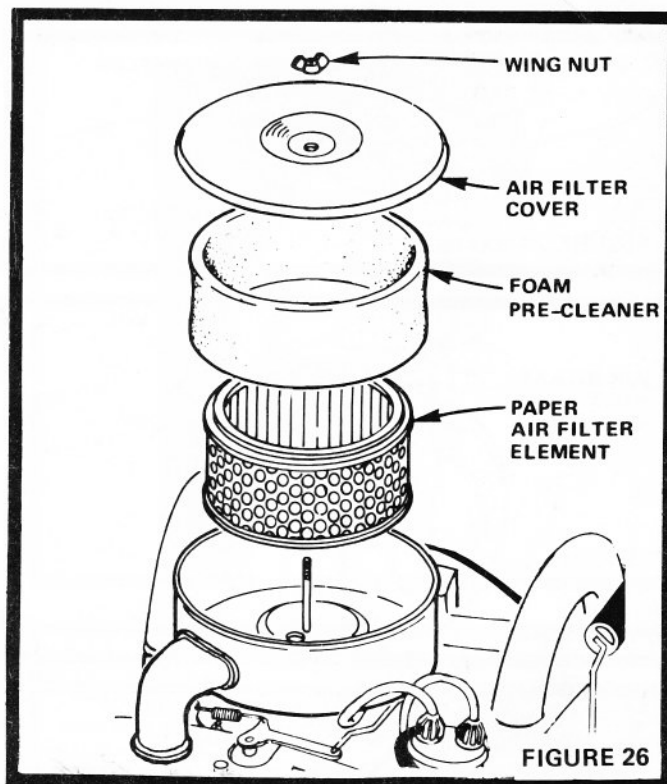

FIGURE 26
- Unscrew Wing Nut (Fig. 26) to remove Air Filter Cover, Paper Air Filter Element and Foam Pre-Cleaner.